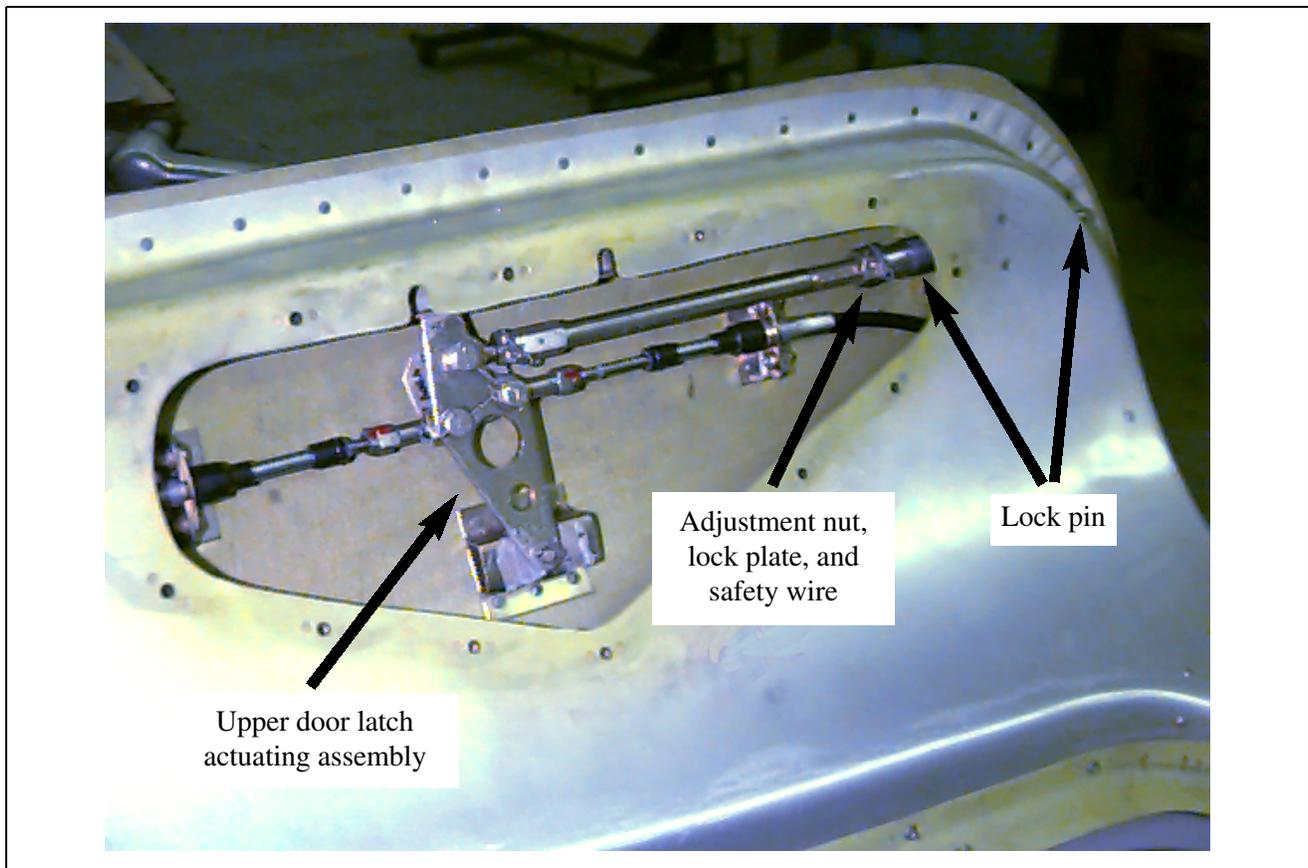

Figure 52-2. Adjustment of Upper Door Latch on Forward Cabin Door
- C. Upper Door Latch on Forward Cabin Door - Adjustment (Refer to Figure 52-2)